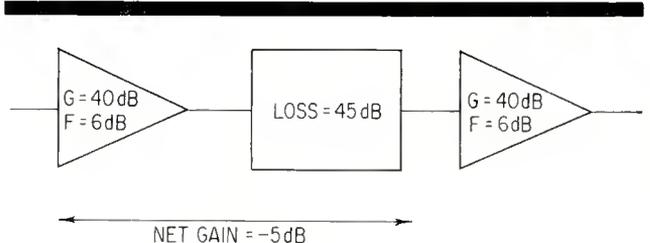

Figure 3. Here are the effects of the noise figure of the booster amplifier. Using equation (18)  $F_s = 13.5$  and  $F_{s(\text{dB})} = 11.3$  dB.
At the bottom of FIGURE 2, we have shown the same system but this time we are interested in the way that the ultimate noise proceeds through the console. We have assumed a 20 kHz bandwidth so that the ultimate noise is  $-131$  dBm at the microphone. The next block is labeled "Noise Figure" and this deserves comment. It will be recalled that the noise figure of the preamplifier and the booster amplifier were given as 6 dB each (a respectable value). It will be noted that the combined losses of the fader control and the mixer network add to 45 dB which is *greater* than the transducer gain of the pre-amplifier. Thus the signal emerging from the mixer network (top of FIGURE 2) is 5 dB *less* than mic level; and the noise (bottom diagram) is now back in the region of the ultimate noise. It is necessary, therefore to consider the effects of the noise figure of the booster amplifier. This is done as is shown in FIGURE 3. Here we apply the formula of equation (18) covering the system noise figure produced by two amplifiers in cascade. From the mathematics of FIGURE 3, it will be seen that the effects of the 45-dB loss in the fader and mixer are to increase the system noise figure to 11.3 dB from the original 6 dB of the first amplifier. The balloons on the noise diagram give the noise levels throughout the console, with the output noise being  $-51.7$  dBm and a signal/noise ratio of 59.7 dB. The equivalent input noise is  $-119.7$  dBm.